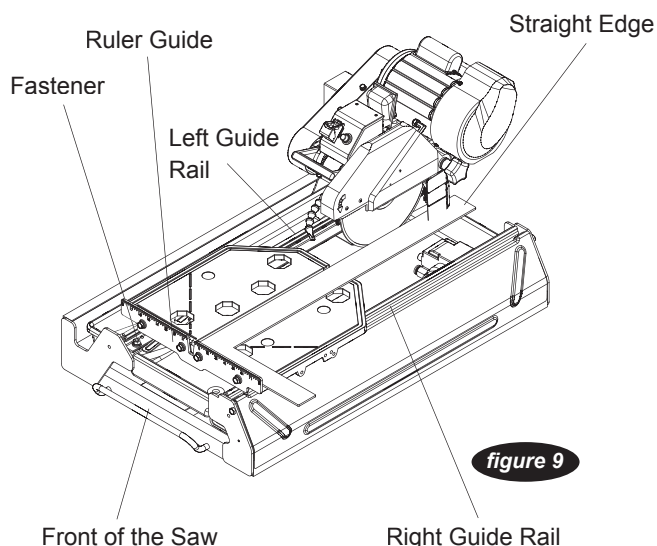

figure 9
2. Place a straight edge (i.e. carpenter's square) on the cutting table as shown in **figure 9**.
3. Loosen the left and right guide rails by loosening the fasteners found at the ends of the rail. (**see figure 9**) The left rail should be slightly loose, so there is not too much play during adjustments, but the right rail should move freely.